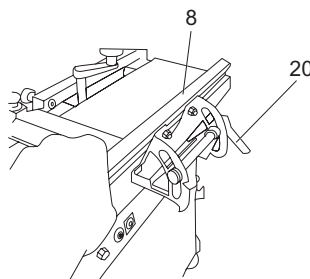

Fig. 13
- > Re-tighten the locking handle (20) to secure the fence guide (8). (Fig. 13)